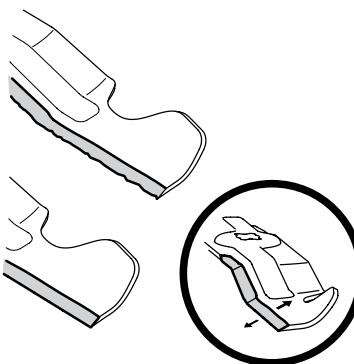

Figure 4-12
5. To properly sharpen the cutting blade, remove equal amounts of metal from both ends of the blade along the cutting edges, parallel to the trailing edge, at a 25°- to 30° angle. Always grind each cutting blade edge equally to maintain proper blade balance. See Figure 4-12.